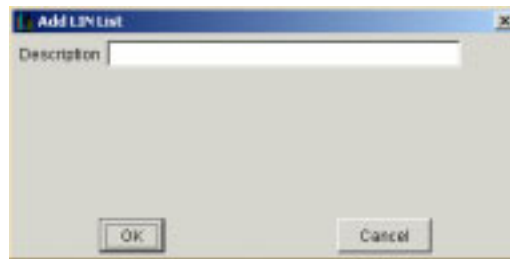

Figure 5.187 Add LIN List Window
2. Click the  (Add) button in the center of the window. The Add LIN List window opens (Figure 5.187).